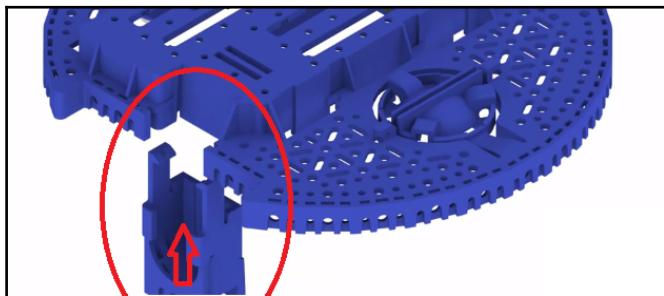

Figure 6.11: Aligning the motor clip. Image courtesy of Pololu—<https://www.pololu.com>
1. Align the motor clip with the chassis as shown in *Figure 6.11*: